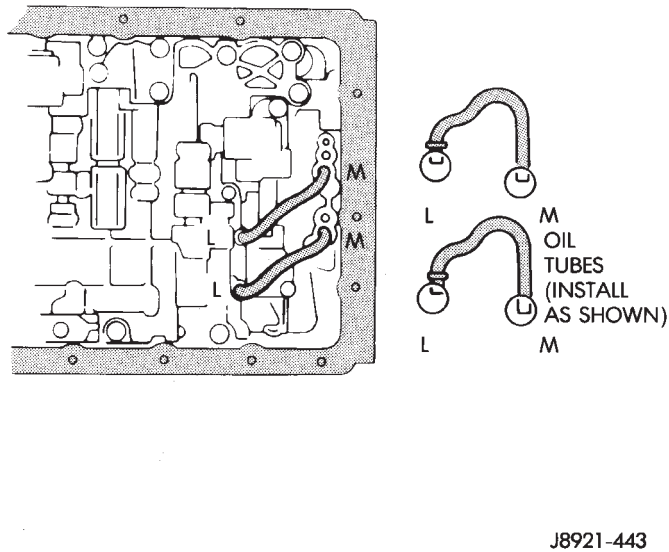

Fig. 18 Installing Transmission Valve Body Oil Tubes
- (6) Install valve body oil tubes. Be sure tube ends (L) and (M) are installed as shown in Figure 18.
- (7) Remove old sealer material from oil pan and transmission case.
- (8) Clean oil screen and oil pan with solvent (if not done previously). Dry both components with compressed air only. Do not use shop towels.
- (9) Install new gaskets on oil screen and install screen on case. Tighten screen attaching bolts to 10 N·m (7 ft. lbs.) torque.